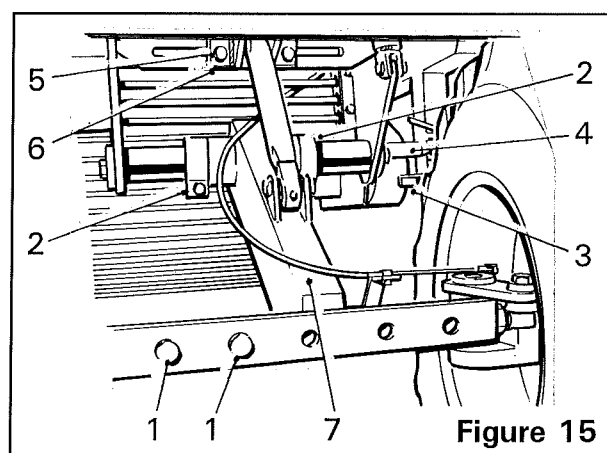

Figure 15
2. Remove the two track rod securing bolts (*item 1, figure 15*).
3. Loosen the two clamps (*item 2, figure 15*).
4. Using the jack supplied, position the jack in the jacking position (*item 3, figure 15*) and raise the wheel.
5. Adjust the wheel using the adjusting link (*item 4, figure 15*) and then retighten the clamps (*item 2, figure 15*).
6. Loosen the retaining bolts (*item 5, figure 15*) and slide the stay bracket (*item 6, figure 15*) until the ram/stay is in line with the wheel leg (*item 7, figure 15*). Retighten the retaining bolts (*item 5, figure 15*).
8. After adjusting both wheels, lower the machine to the ground and refit the track rod securing bolts (*item 1, figure 15*) into the appropriate holes.